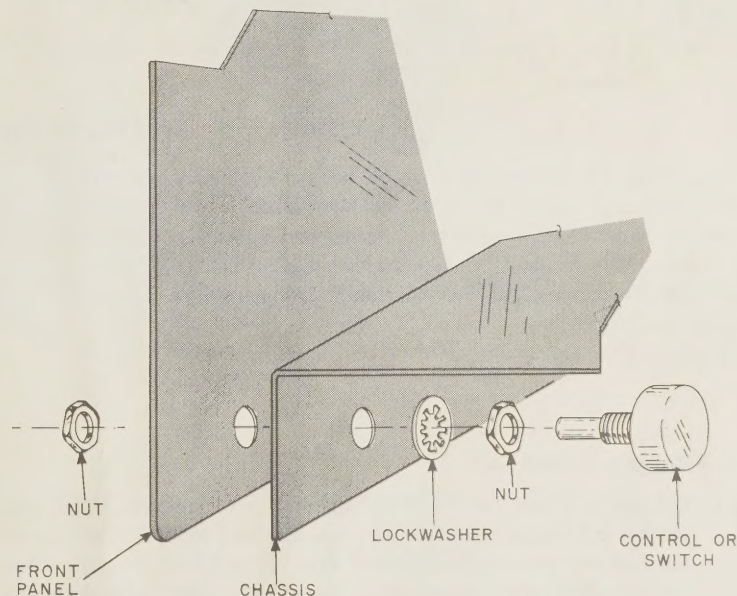

FIGURE 7. HOW TO MOUNT THE PANEL WITH A CONTROL OR SWITCH
- (✓) Mount S-1, the band switch, in the large hole on the left front of the chassis and the panel. The three terminals must be toward the open side of the chassis. Screw a large nut over the threaded bushing several turns, place one of the large lockwashers on the shaft, and insert the shaft through the hole in the chassis and the hole in the panel. Tighten another large nut over the threaded bushing. See Figure 7.